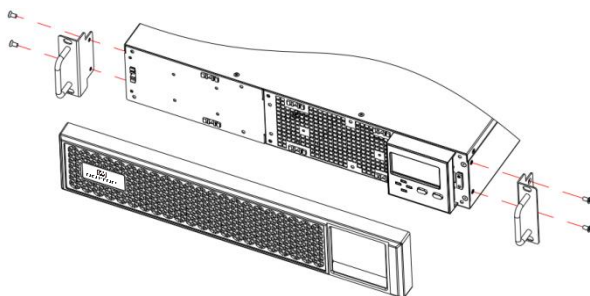

Fig.5-2 Removing the front plastic bezel cover
1. Remove the front plastic bezel cover gently and remove two brackets screws, as shown in Fig.5-2.